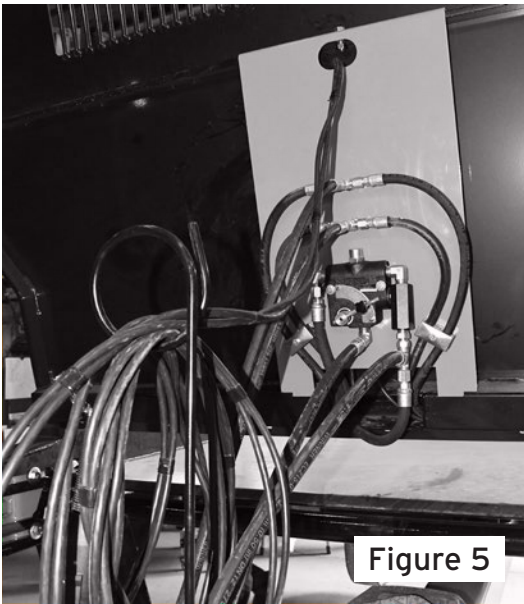

Figure 5
- b. Start by inserting LEFT and RIGHT wires through the top hole of the hydraulic plate. (Figure 5).